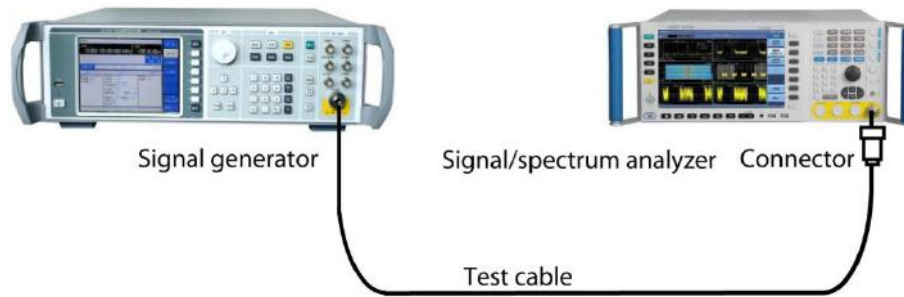

Fig. 4.69 Connection Settings of Power Statistical Measurement
Step 2. Connect the radio frequency output port of the signal source to that of the analyzer. As shown in Fig. 4.69: